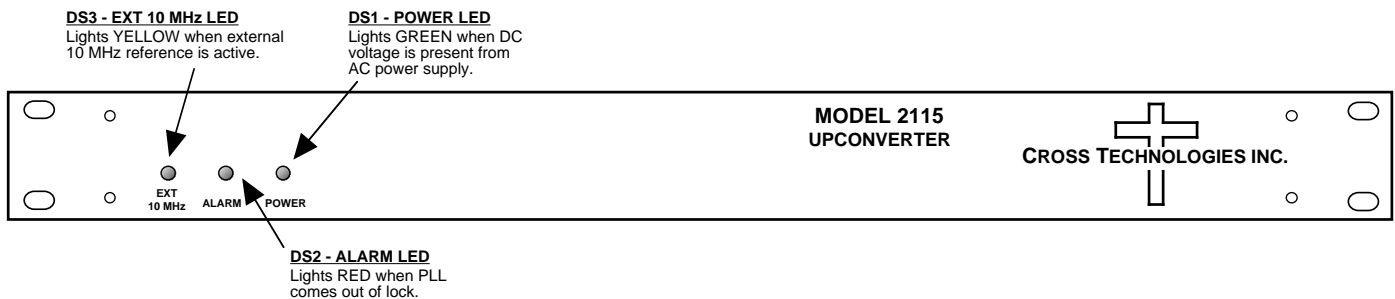

FIGURE 2.2 Front Panel Controls and Indicators
Figure 2.2 shows the front panel indicators.
4. Be sure DS1 (green, DC Power) is on and DS2 (red, Alarm) is off (Figure 2.2).
6. If EXT is selected or AUTO is selected and there is a 10 MHz, 3 dBm signal at J2, check that DS3 (yellow, Ext 10 MHz) is on (Figure 2.2).